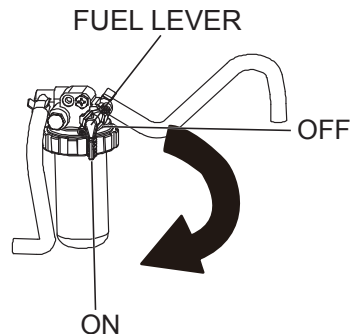

Figure 15. Fuel Lever (ON)
1. Open the rear cover of the cart. Set the fuel lever to the ON position (Figure 15).